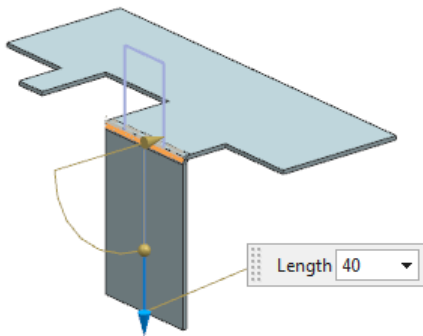

Figure 14-108 Preview of the first flange
3. Specify **40** mm as the distance of the flange in the **Length** edit box. Figure 14-108 shows the preview of the flange.